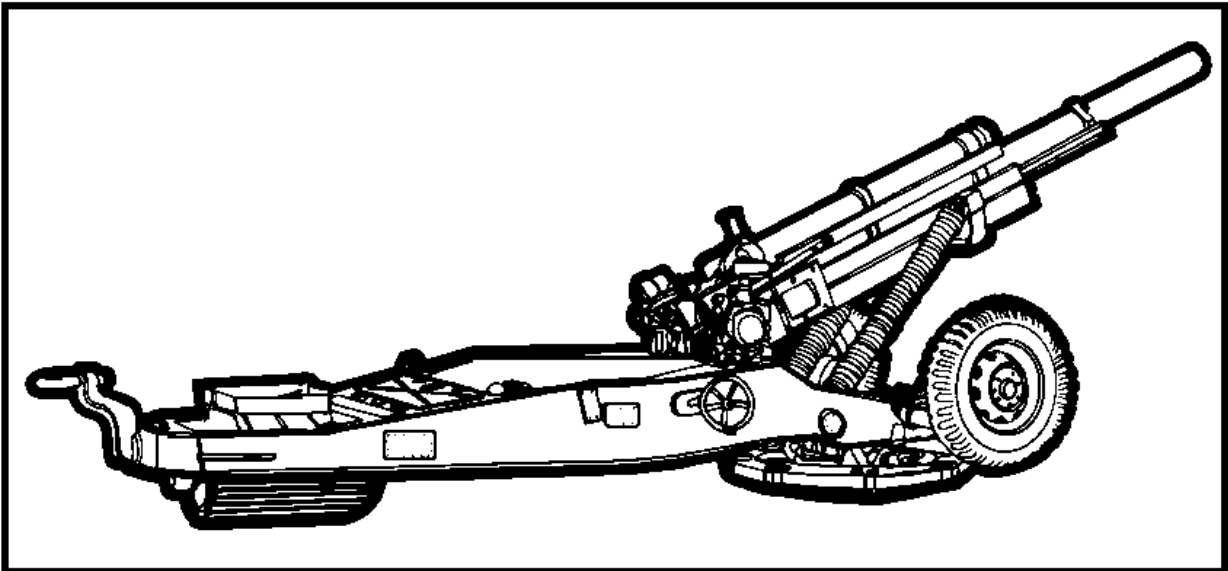

Figure 2. 105-mm M102 howitzer.
a. M102 description. The 105-mm towed light M102 howitzer consists of the 105-mm howitzer cannon and the 105-mm howitzer recoil mechanism mounted on the carriage (Figure 2). The weapon is traversed and elevated by hand wheels located on the sides of the carriage. A 6,400-mil traverse capability is provided as the carriage pivots around the center of a circular base by means of a roller located at the rear of the trail assembly (Figure 2). The weapon can be airlifted and may be towed at 35 miles per hour (mph) over hard-surfaced roads. The 105-mm M102 howitzer has a very low silhouette when in the firing position.